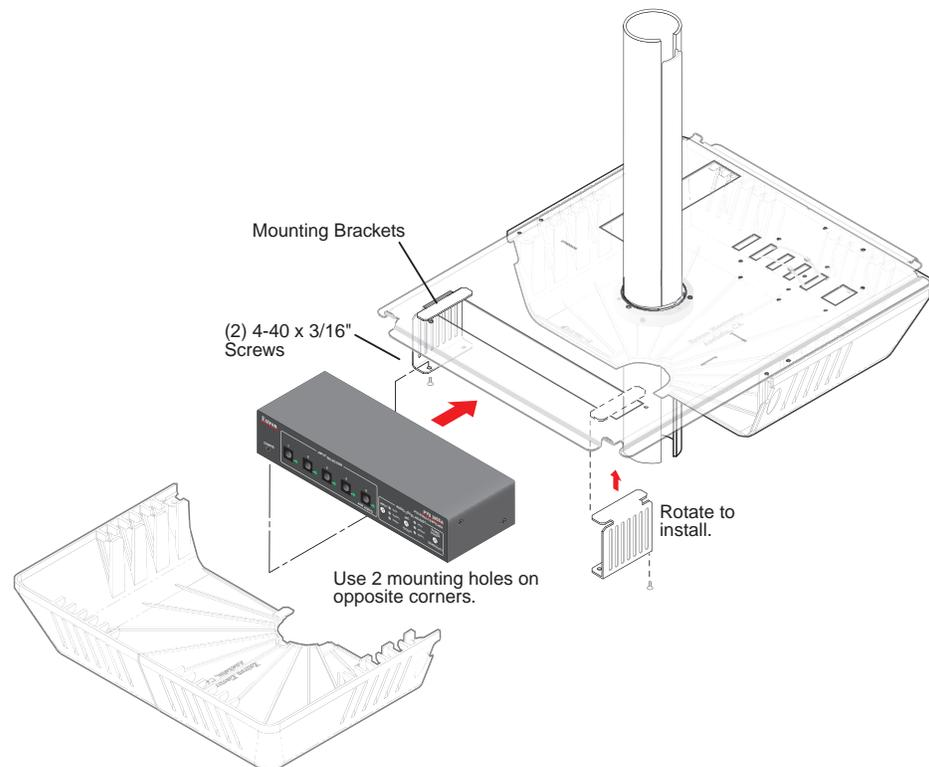

Figure 2-3 — Fit the brackets in the slot and attach the switcher
2. Install both brackets into the slot (see figure 2-3).